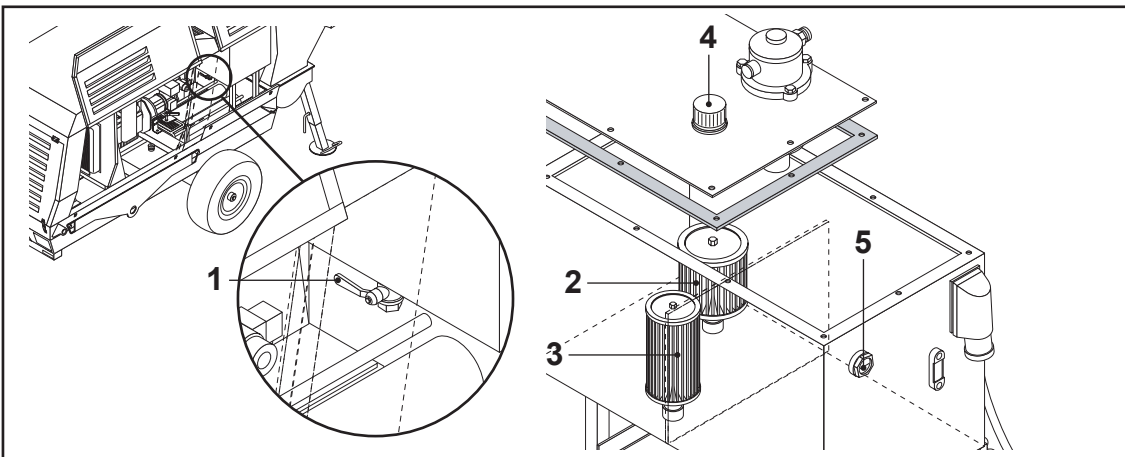

FIG.66
- Open the valve (FIG. 66-REF. 1) beneath the oil tank to drain the tank, placing an adequately sized container below it to collect the oil.
- Unscrew and replace the internal filters (FIG. 66-REF. 2/3) and close the tank after inspecting the conditions of the gasket (replace if necessary).
- Open the cap (FIG. 66-REF. 4) and fill the tank with 75 litres of ELF OLNA DS 46 hydraulic oil.
- Check the oil level through the inspection window (FIG. 66-REF. 5).
- Start the engine and let the hydraulic pump run idle for a few minutes while checking the oil level through the inspection window (FIG. 66-REF. 5); if the level is below the inspection window, add more oil.